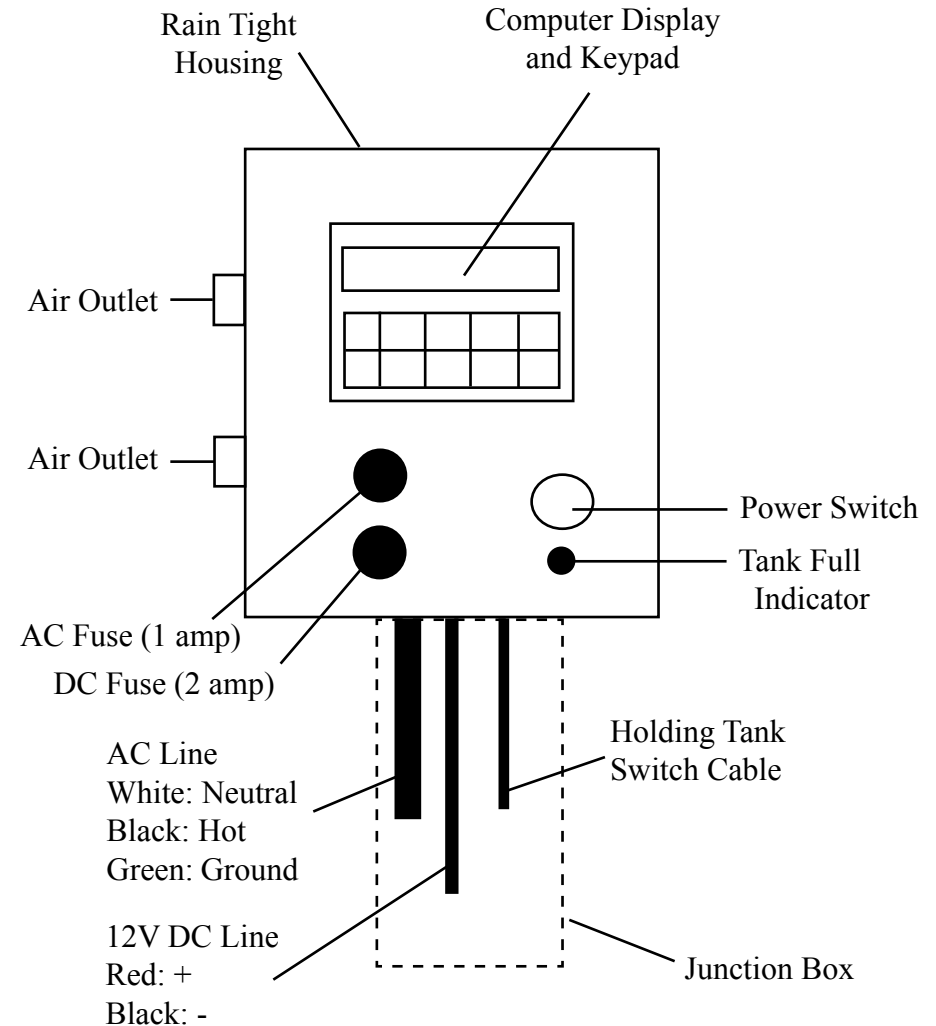

Figure 3
STEP 1. Mount programmable Controller Model 3000ES (Figure 3) in a vertical position near the air source, power source, and holding tank if possible. **CAUTION:** The Model 3000ES is NOT intrinsically safe. If this controller must operate in a CLASS I area, use the XITECH Model 2550ES CLASS I Controller instead. Air supply needs to be free of WATER and OIL to have minimum maintenance. **NOTE:** The ON/OFF switch inside the controller is for AC and DC power.
STEP 2. Install holding tank shutoff assembly into holding tank (a 2" standard pipe inlet will be required in the holding tank). The level of product in the holding tank can be set by raising or lowering the liquid level float switch rod. Wire the shutoff switch cable into the controller (Figure 3). **NOTE:** If additional signal cable is needed to position the holding tank assembly further away from the controller, use 18 gauge 2-conductor wire.
STEP 3. Attach power line from the AC or DC power source to the controller (Figure 3). Turn on the controller power switch. If the red "Product Tank Full" light stays on, you have a problem with tank shut-off wiring. Turn off the power switch and re-check the tank shutoff wiring. If the light continues to stay on, call the factory.